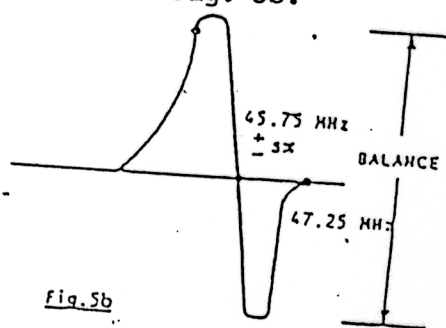

Fig. 5b
3. Adjust VR303 obtain the waveform is balance as in Fig. 5b.